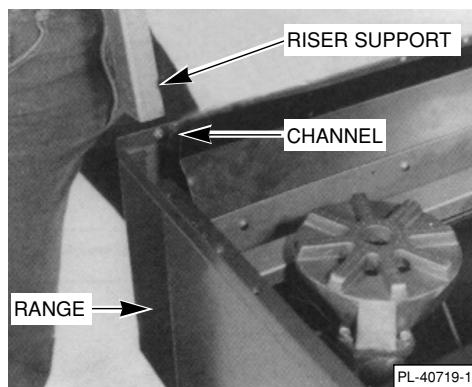

Fig. 2
3. Carefully lift the back riser over the range, guiding the riser supports (or bayonets) into the channels provided at the rear of the range (Fig. 2). Depending on range width, there may be two or three riser supports.
1. Mount back riser onto Gas Restaurant Range so riser supports slide into the channels on the back of the range (similar to heavy duty range, Fig. 2). Attach screws to channels on rear of range. Mounting brackets for broiler and support beam are assembled onto the back riser at the factory. Remove the two mounting bolts from top of support brackets on back riser.